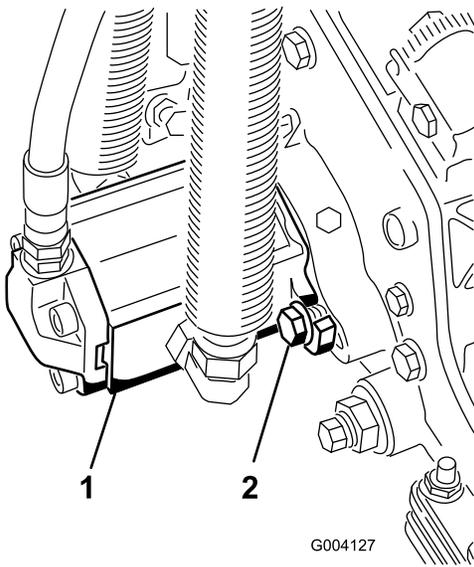

Figure 32
- Install the motor by rotating it clockwise so that the motor flanges clear the bolts (Figure 32).